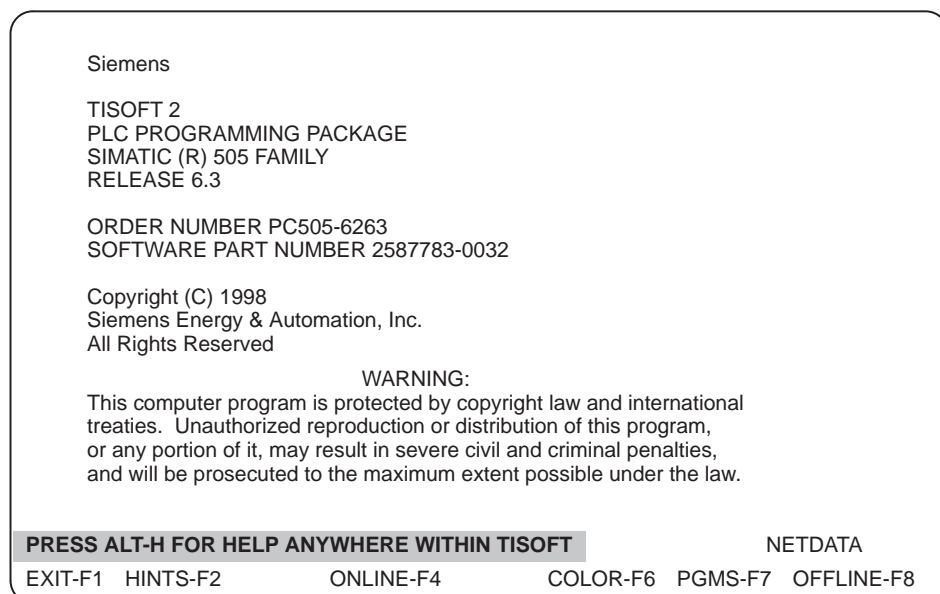

Figure 1-8 TISOFT Start-up Screen
- Displaying the Start-up Screen** After you enter the TISOFT operating software selection you wish to use, the Start-up Screen is displayed as shown in Figure 1-8.